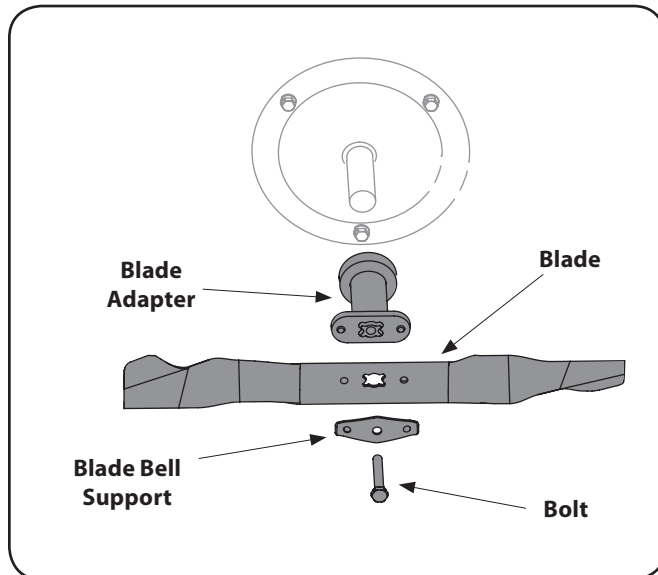

Figure 7-1
2. Remove the bolt and the blade bell support which hold the blade and the blade adapter to the engine crankshaft. See Fig. 7-1.
3. Remove blade and adapter from the crankshaft. See Fig. 7-1.
4. Remove blade, adapter, and related hardware as instructed under "Blade Care" above. See Fig. 7-1.